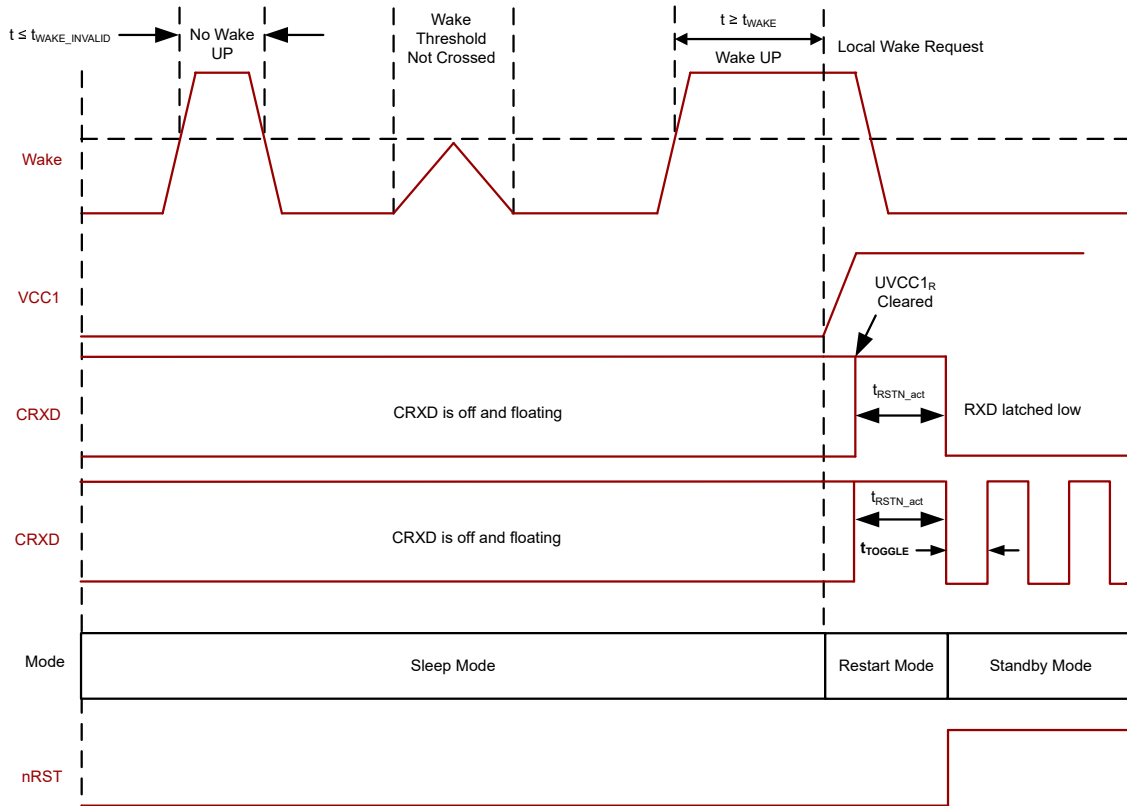
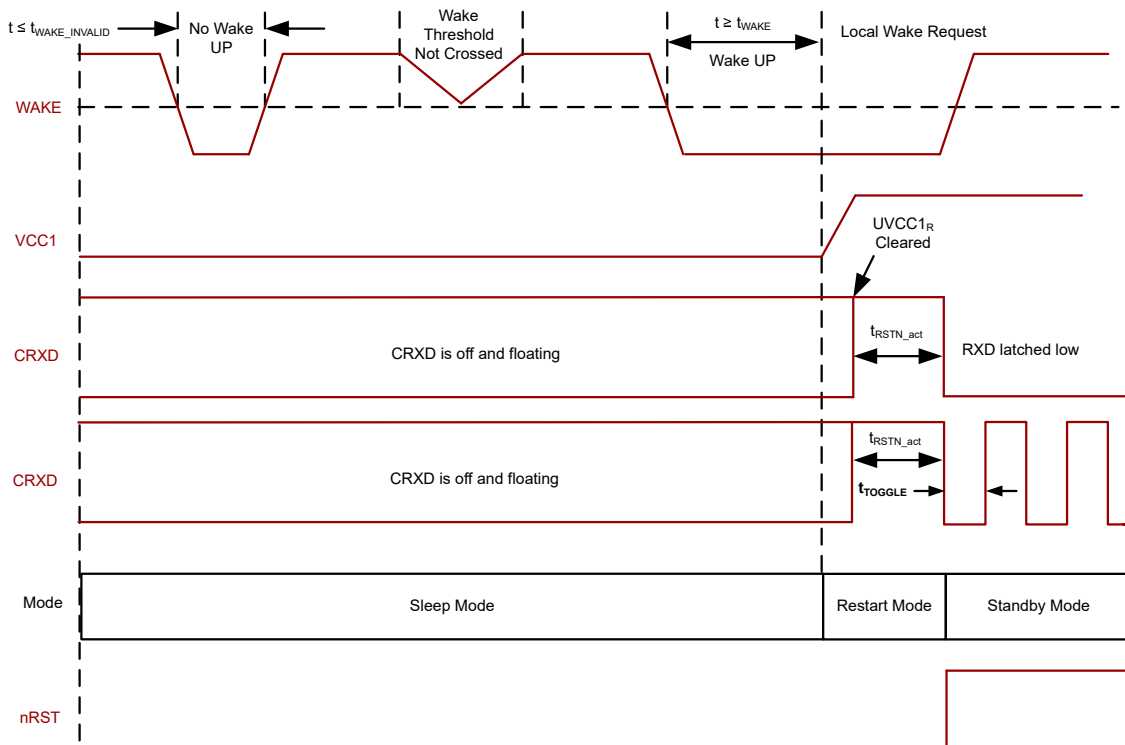

Figure 8-32. Local Wake Up – Rising Edge
Figure 8-33. Local Wake Up – Falling Edge
The WAKEx pins default to bi-directional input but can be configured for rising edge and falling edge transitions, see Figure 8-32 and Figure 8-33, by using WAKE_CONFIG register 8'h11[7:6]. WAKE pins are ground based wake inputs and can be used with a switch to ground or V_{SUP} . The WAKEx pins input thresholds can be based on VCC1 levels which allows a direct connection to the processor or a switch to the VCC1 rail. If the terminal is not used, connect the terminal to ground to avoid unwanted parasitic wake up. Once the device enters sleep
- Figure 8-32 and Figure 8-33 provide examples of a rising or falling edge WAKE input. RXD is pulled low once $VCC1 > UVCC1$ and standby mode is entered.